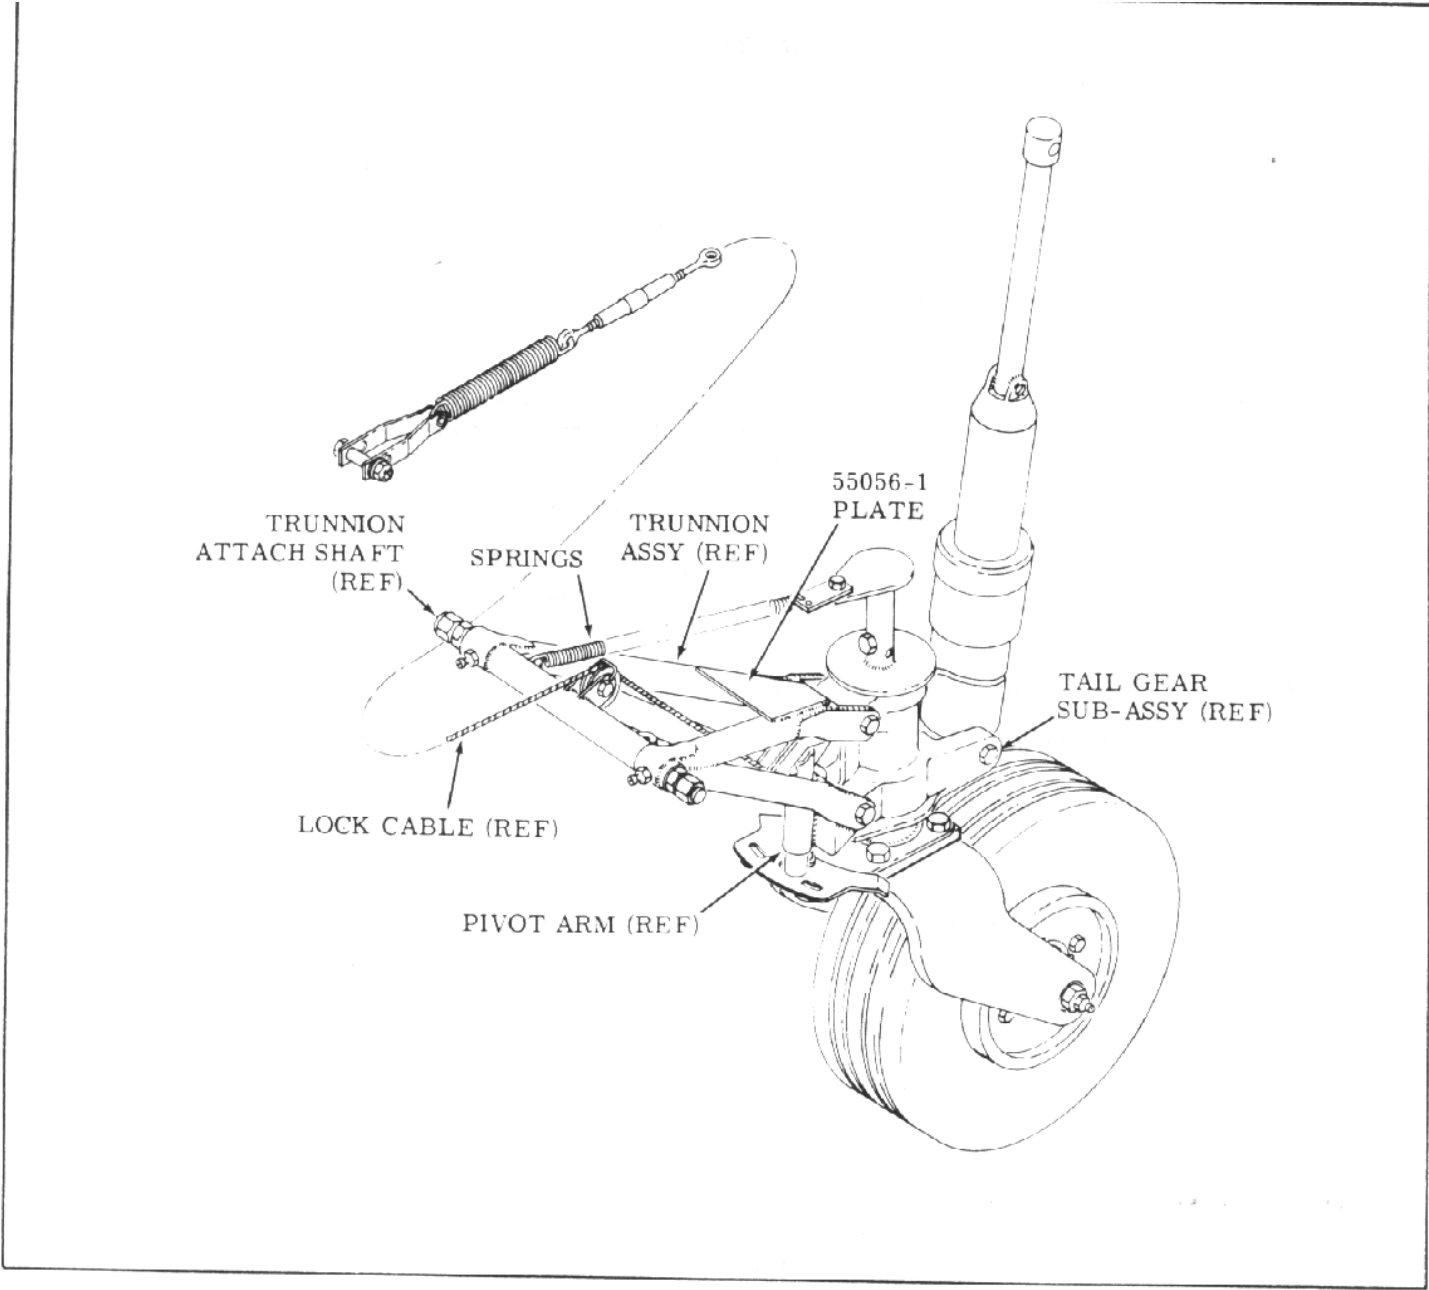

Figure 1.
3. Weld 55056-1 plate on trunnion assembly (see Figure 1.).